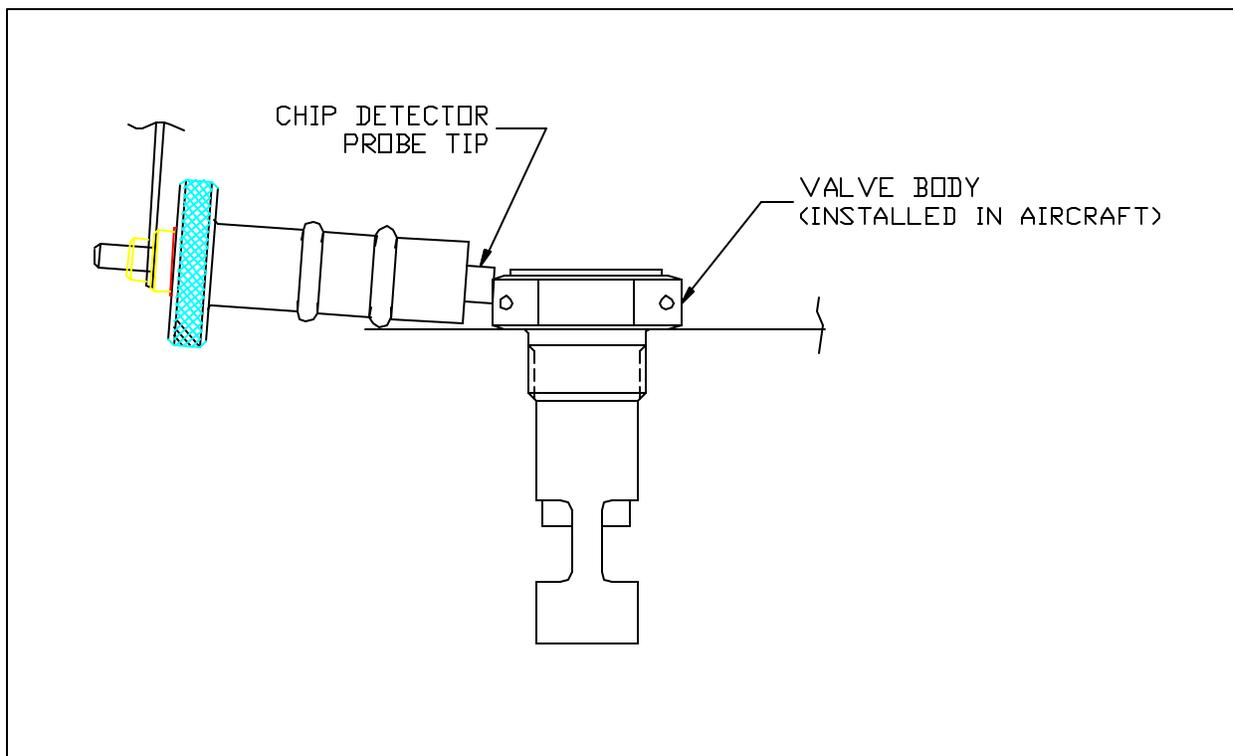

FIGURE 3
4. Hold the tip of the center stud of the chip detector probe firmly against the valve housing as shown in Figure 3 while checking chip indicator light in cockpit. The cockpit light should illuminate. Illumination of the light in this step isolates the electrical discontinuity to the valve insert. Repair the unit per the repair instructions in section 2 of this document.